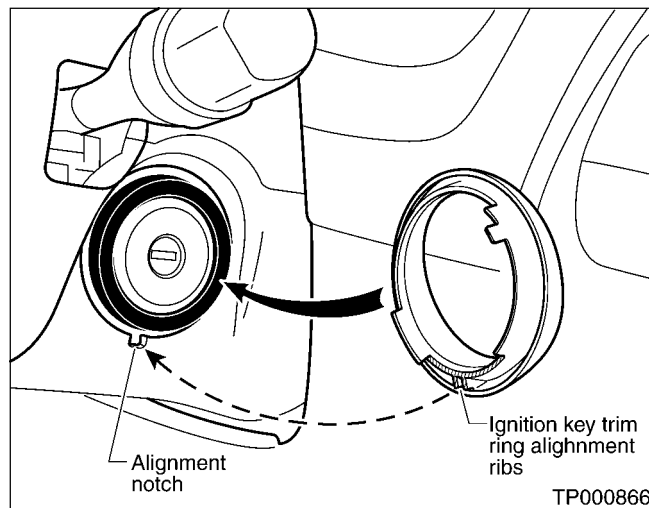

Figure 10
B. Press the trim ring back onto the ignition key lock cylinder making sure it is correctly oriented (see Figure 10).